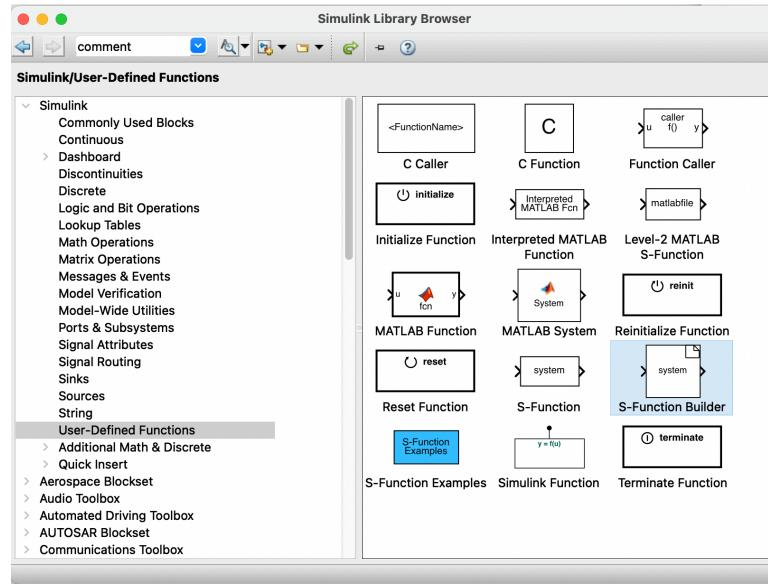
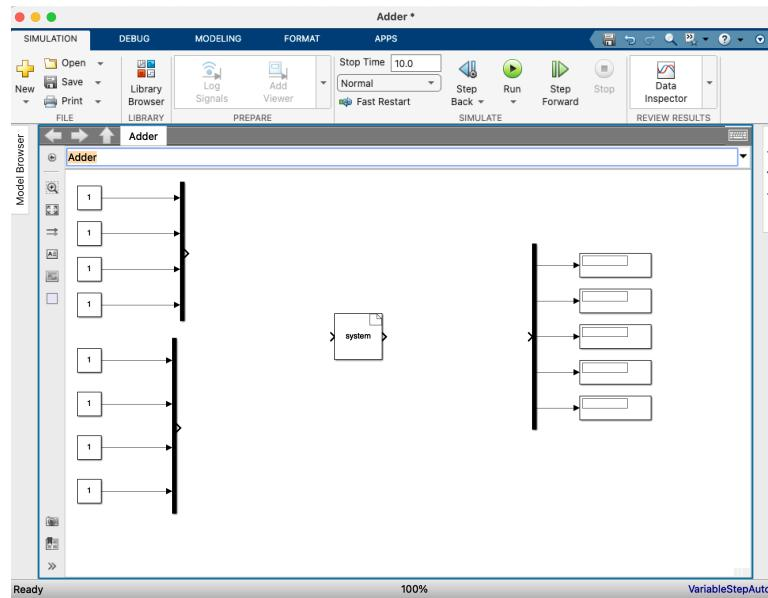

Figure 1: Simulink S-function Builder block
Figure 2: Eight bit adder Simulink model
- (b) Select Microsoft Visual C++ 2015 Professional (C) as the compiler.This Microsoft compiler cannot generate object code for the NXP S32K. It should, however, allow you to complete most of your debugging outside the EECS 461 lab. Follow the steps below if you are using an EECS 461 lab computer
3. Create a new Simulink model in Matlab 2022a. Insert 8 Constant Blocks, 2 Muxs, 1 Demux, and 5 display blocks. Insert the S-Function Builder block from the Library Browser, figure 1 under User-Defined Functions. Your Simulink model should look something like figure 2.